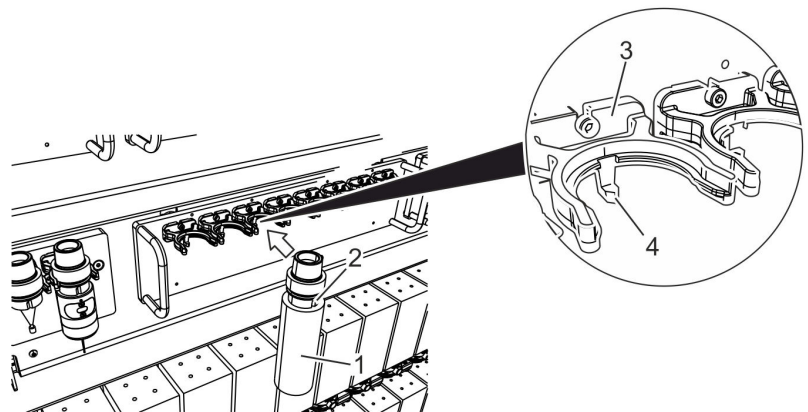

Fig. 53: Removing/inserting a tool
2. ➔ Insert the tool (Fig. 53/1) in the corresponding tool position (Fig. 53/3) as specified in the position table.
When inserting, make sure that the notch of the tool (Fig. 53/2) is positioned so that the pin of the plastic bracket (Fig. 53/4) fits into the notch.